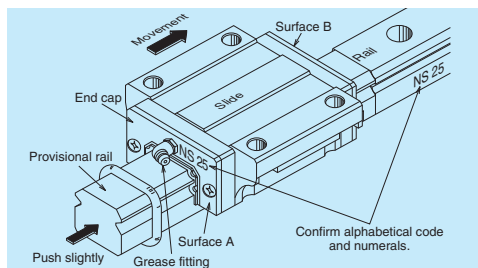

Fig. 10.23 Installing slide onto rail
- Interchangeable (also called "random-matching") linear guide slides come delivered on a provisional rail (installation tool) (Fig. 10.23).
- (1) Wipe off the rust preventive oil from the rail and slide.
- (2) Please match groove mark for the datum surface of slide and rail to set desired assembling state  $W_2$  or  $W_3$ .
- (3) Align the provisional rail to the rail bottom and side surfaces. Press the provisional rail lightly against the rail, and move the slide onto the rail (Fig. 10.23).